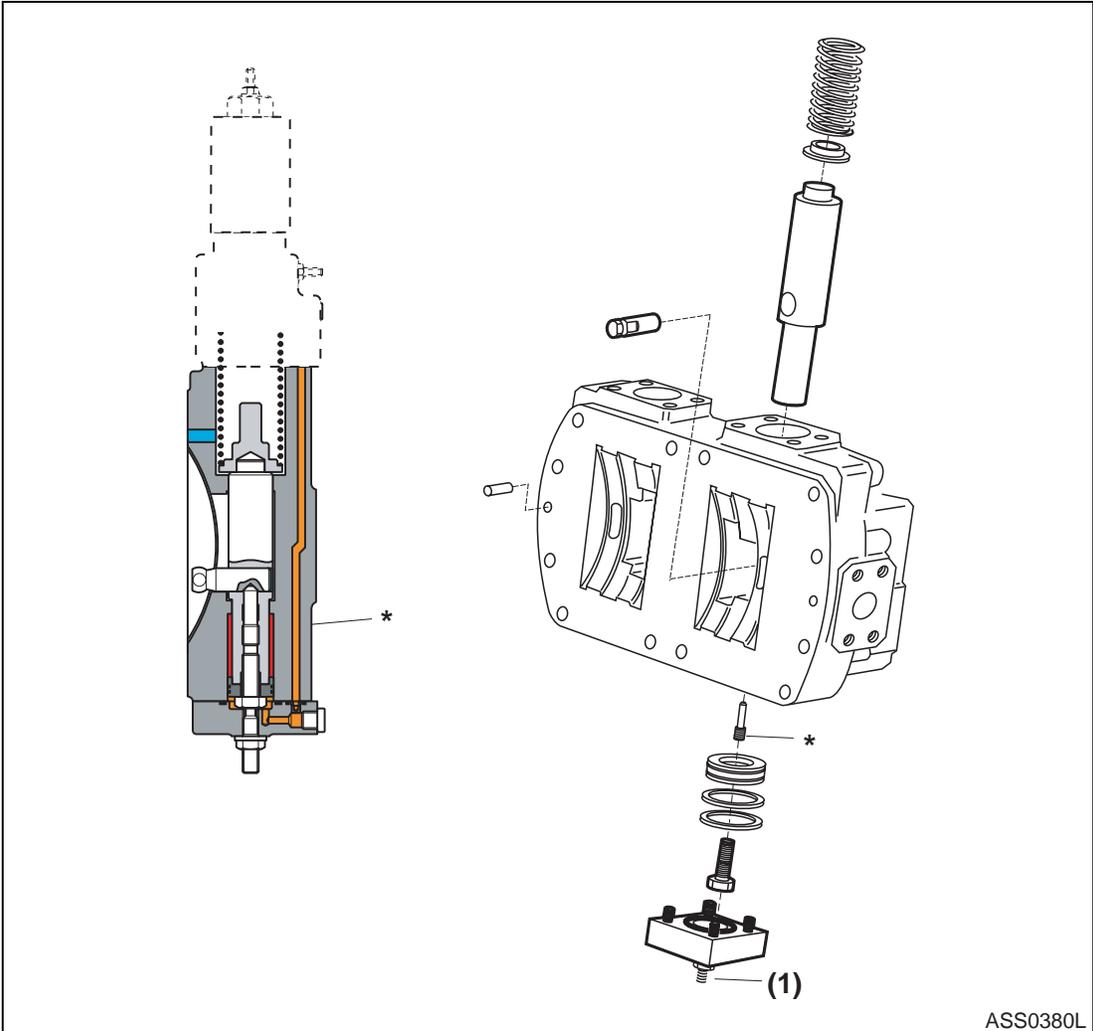

Figure 39
**NOTE:** Do not change the setting of adjustment screw (1, Figure 39).